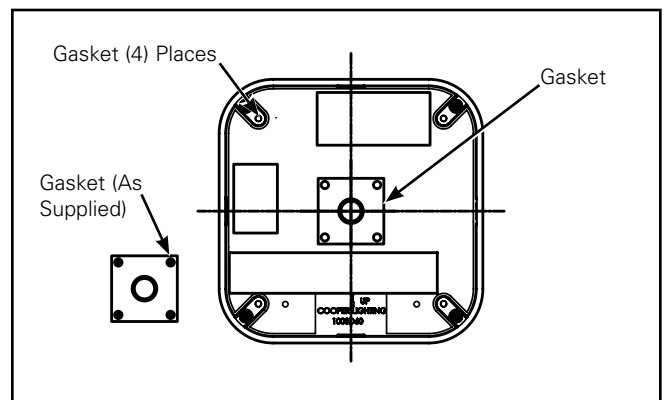

Figure 7. Shallow Cast Gasket Location
- Remove the four donut gaskets from the supplied square gasket set. Peel the backing from each of the four donut gaskets and apply them to the back side of the cast housing at each of the four mounting holes (gasket has adhesive on one side). Use the remaining gasket square to seal cast housing to J-Box. (Figure 7.)